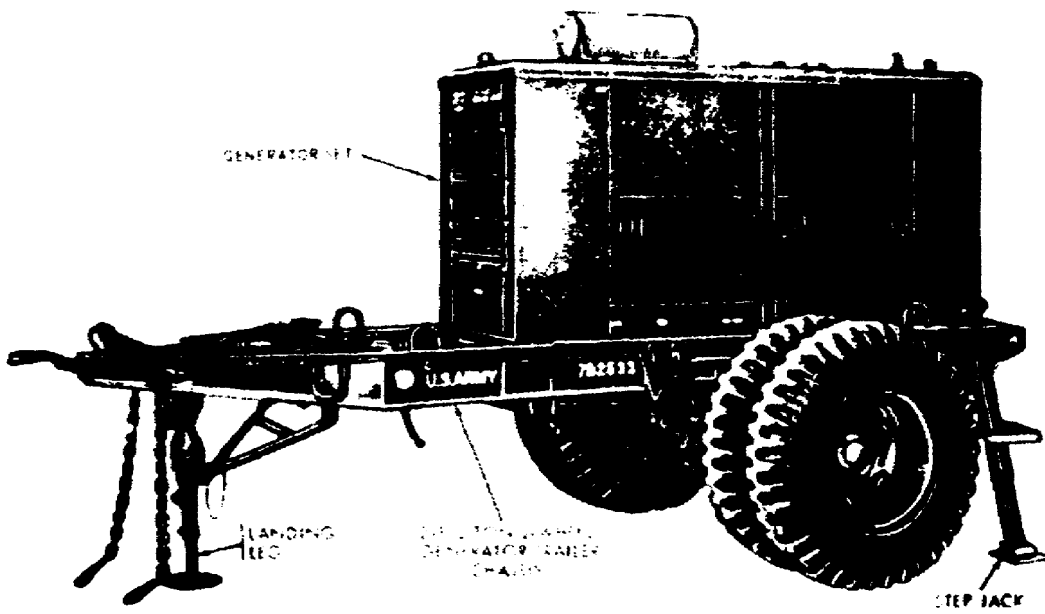

Figure 8. Generator set mounted on trailer chassis.
c. The No 1 supplemental and basic sets installed into the M146 semitrailer shop van, as required by TB ORD 444-22, utilizes a 2-1/2-ton, 2-wheeled generator trailer chassis M200A1. Figure 8 shows the 60KW 3-phase generator mounted on the trailer chassis. The 2KW, 12-volt DC generator is mounted on the floor on the left side at the rear of the semitrailer (foldout 3).